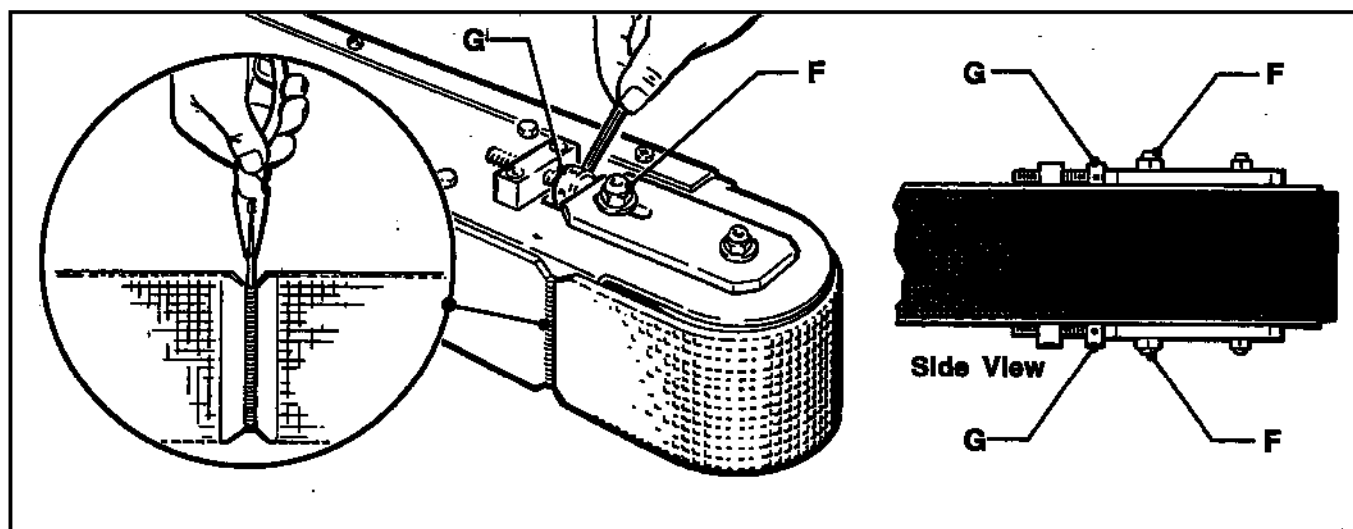

Figure 4-5 – Box Drive Belt, Lower
5. Loosen, but do not remove the lock nut (F) on both upper and lower belt tension assemblies. See Figure 4-5.
6. Turn belt adjustment screws (G) clockwise on both the upper and lower tension assemblies to loosen belt.
8. Install new drive belt around drive rollers and install pin as shown in Figure 4-5. Pin must not extend beyond edge of belt.